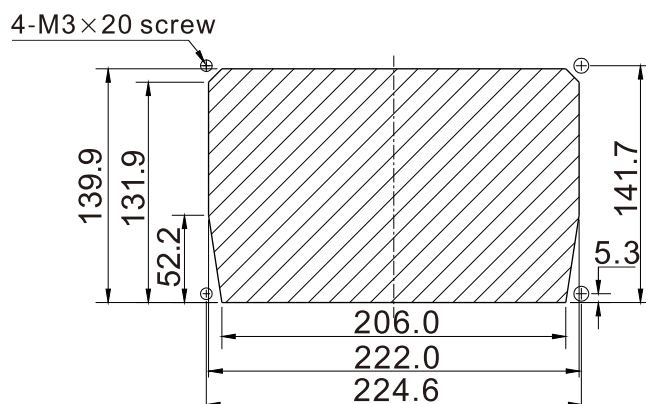

Figure 5.4 Dimensions of opening and fixing holes for flush mounting
1. Cut a rectangle opening. (Refer to Figure 5.4)
2. Loosen two (2) fixing bolts that fasten the display unit on to the mounting bracket.
3. Remove four (4) plastic screw covers, with are fitted on each corner of the display front face. (Pull up and out for easy removal.) Do not lose these screw covers.
4. Put the display on the opening and fix with four (4) tapping screws. In case you use M3 screws to fix the display, select an appropriate screw length that best suits fixing the unit to the panel thickness.
5. Refit the covers removed in step (3).